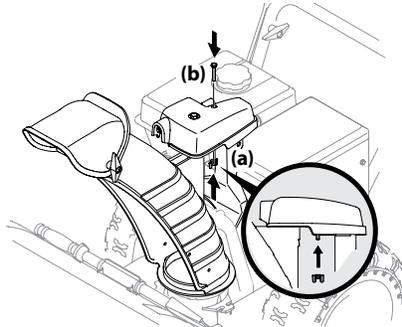

Figure 2-15
3. Finish securing chute control head to chute support bracket with wing nut (a) and hex screw (b) removed in Step 1. See Figure 2-15.